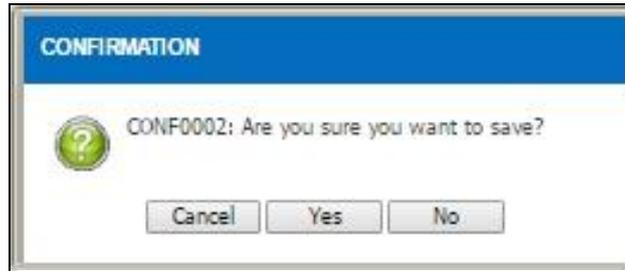

Figure 4.1.4-8 Alert Message
- Alert message will be displayed after the transaction is saved as per Figure 4.1.4-8
- Click on the  button to confirm the saved transaction and the item information will be displayed as Figure 4.1.4-9